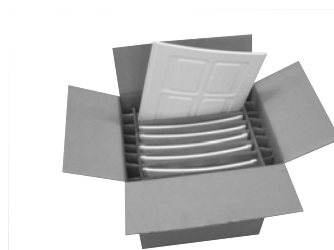

Figure 2 - Example of packing for ceramics
- One contains the ceramic (fig.2). In this case there will be a single packaging for the structure (the cardboard with the ceramics will be placed above the packaging with the structure)